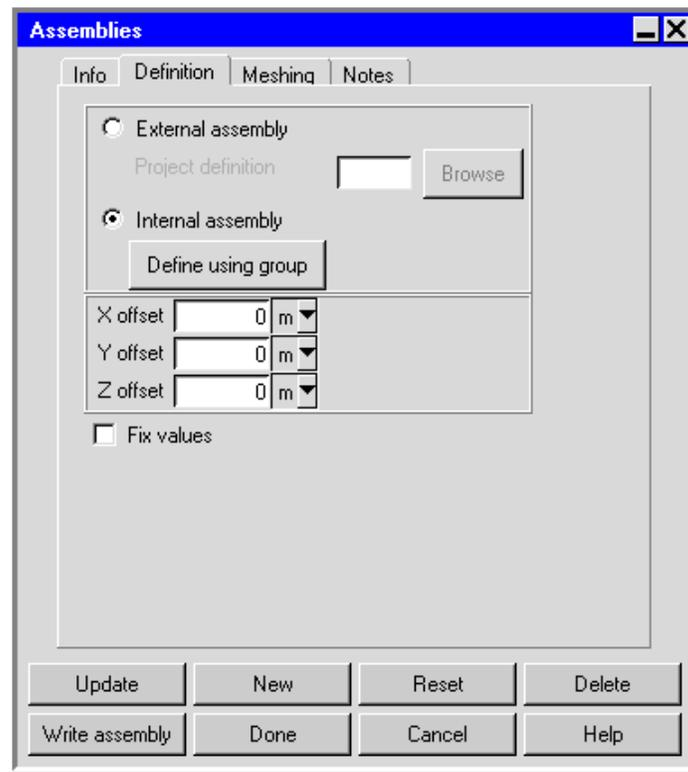

Figure 7.8.2: The Assemblies Panel (Definition Tab)
1. Click on the  button in the Object modification toolbar or right-click on the assembly item in the Model manager window and select Edit object in the pull-down menu. This will open the Assemblies panel (Figures 7.8.2 and 7.8.3).
4. In the Definition tab, select the assembly to be added to the model (Figure 7.8.2). There are two options:
To save an assembly to be used in another model, click **Write assembly** in the Assemblies panel (Figure 7.8.2). This will open the Save project panel. See Section 3.4 for information on the Save project panel. You can save the project containing the assembly to any directory, but it is recommended that you create a local assemblies directory where you can save all the assemblies you create.
To delete an assembly, select the assembly and click on the  button in the Object modification toolbar, select **Delete** in the **Edit**→**Current object** menu, or click **Delete** in the **Assemblies** panel (Figure 7.8.2). The selected assembly will be removed from the model and from the **Model manager** window.